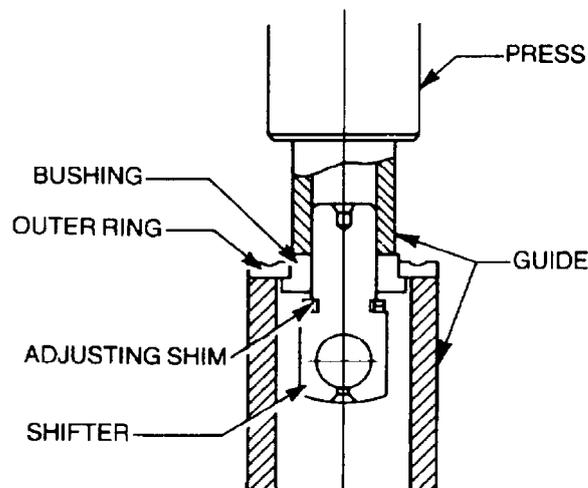

Figure 101 Removing the Bearing Outer Ring From the Shifter
- f. Inspect the shifter/sleeve bearing for wear, pitting, cracks or damage. If replacement is required, press the bearing outer ring from the shifter as shown in Figure 101.
- f. If the shifter/sleeve was replaced, press the new bearing outer ring onto the shifter bush ensuring that the bearing running surface is facing away from the bush shoulder and that the bearing butts against the bush shoulder (Figure 101).